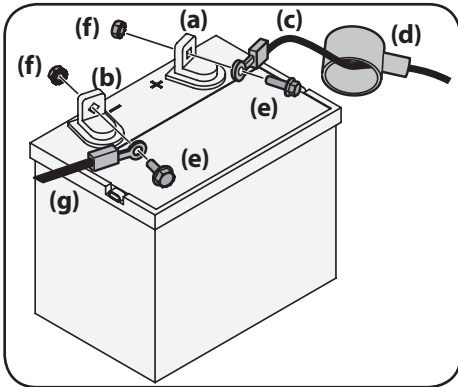

Figure 2-18
4. Attach the black cable (g) to the negative battery terminal (b) with the bolt (e) and hex nut (f). See Figure 2-18.